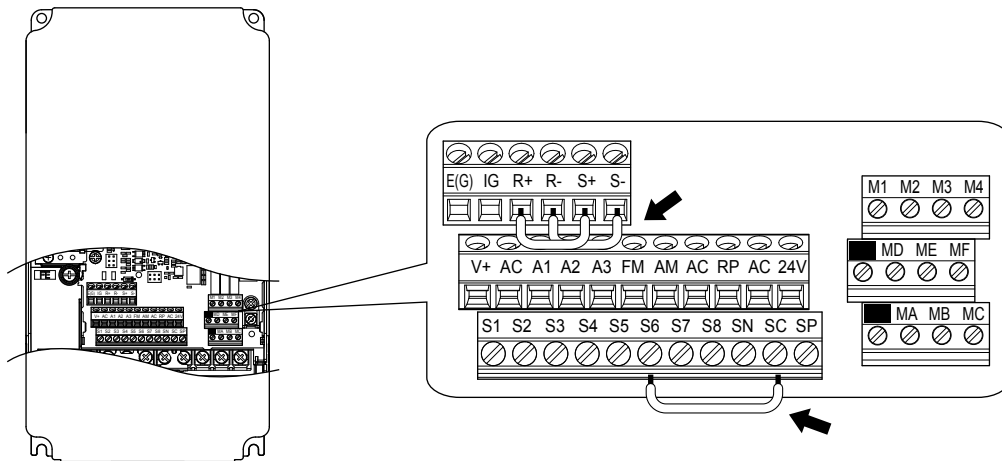

Figure C.7 Terminal Connections for Communication Self-Diagnostics
4. With the power off, wire the drive as shown in **Figure C.7**, connecting terminals R+ and S+, R- and S-, and S6 and SC.